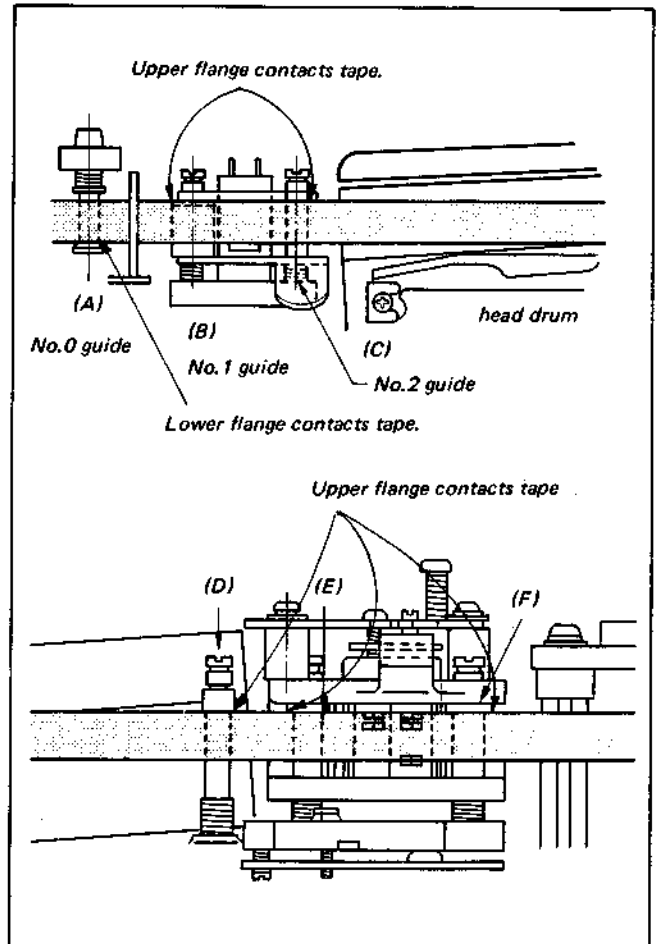
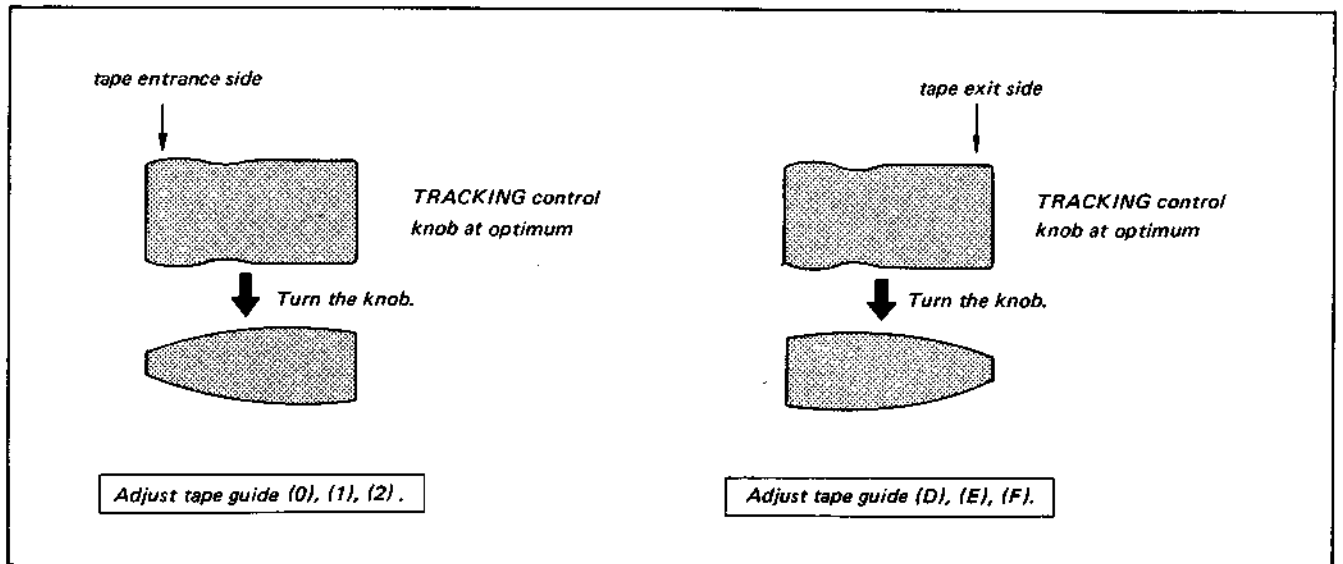

Fig. 3-48. Adjustment of tape path
Fig. 3-47. Adjustment of tape path
- When the waveform at the tape entrance side is not flat as shown in Fig. 3-47 for the clockwise and counterclockwise turning of the TRACKING control knob from center, detent position, adjust the heights of tape guides (0), (1), and (2). When the waveform at the tape exit side is not flat, adjust the heights of tape guides (D), (E), and (F). The height adjustment must be performed so that the tape contacts the drum heads, and there is a minimum curl (not more than 2 mm) at the flange of each tape guide, the upper or lower flanges contact the tape as shown in Fig. 3-48, and the RF waveform is flat.
- Raise the tape guide (D) shown in Fig. 3-48 by 0.5 mm. (Turn the nut one turn.)